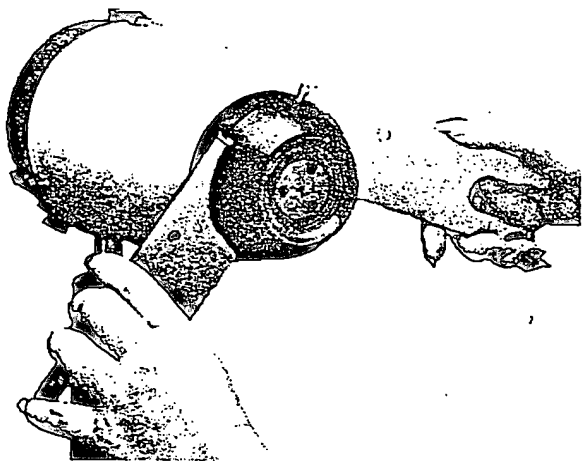

Figure 12
1. Separate RPM-4 and RPM-5 by using two RPM-419 wrenches. Hold one stationary while turning the other CCW. See Figure 12. Note it is only necessary to separate these parts if replacing one, or for thorough cleaning.